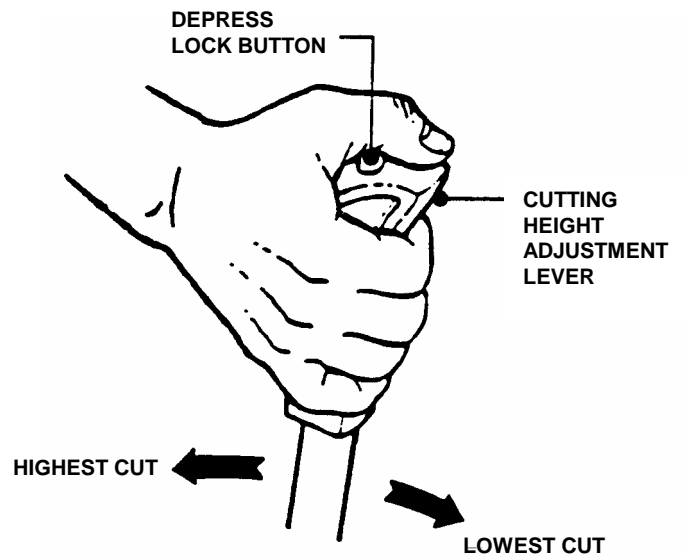

FIGURE 2.14
1. Depress lock button on cutting height adjustment lever. See Figure 2.14.